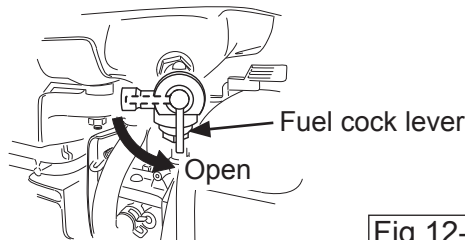

Fig.12-1
- Turn the lever of the fuel cock downward and feed fuel. (Fig.12-1, 12-2, 12-3)